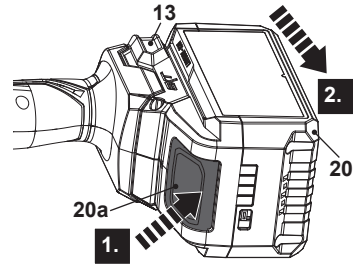

Fig. 14
2. Press the release button (20a) and remove the battery pack (20) from the battery docking port (13) (Fig. 14, steps 1, 2).